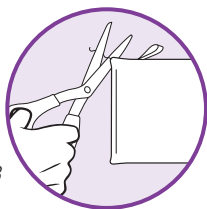

fig. 33
- 2 If there are loose threads on the cleaning pocket carefully cut the thread with scissors. Don't pull on them or cut at the base. **(fig. 33)**